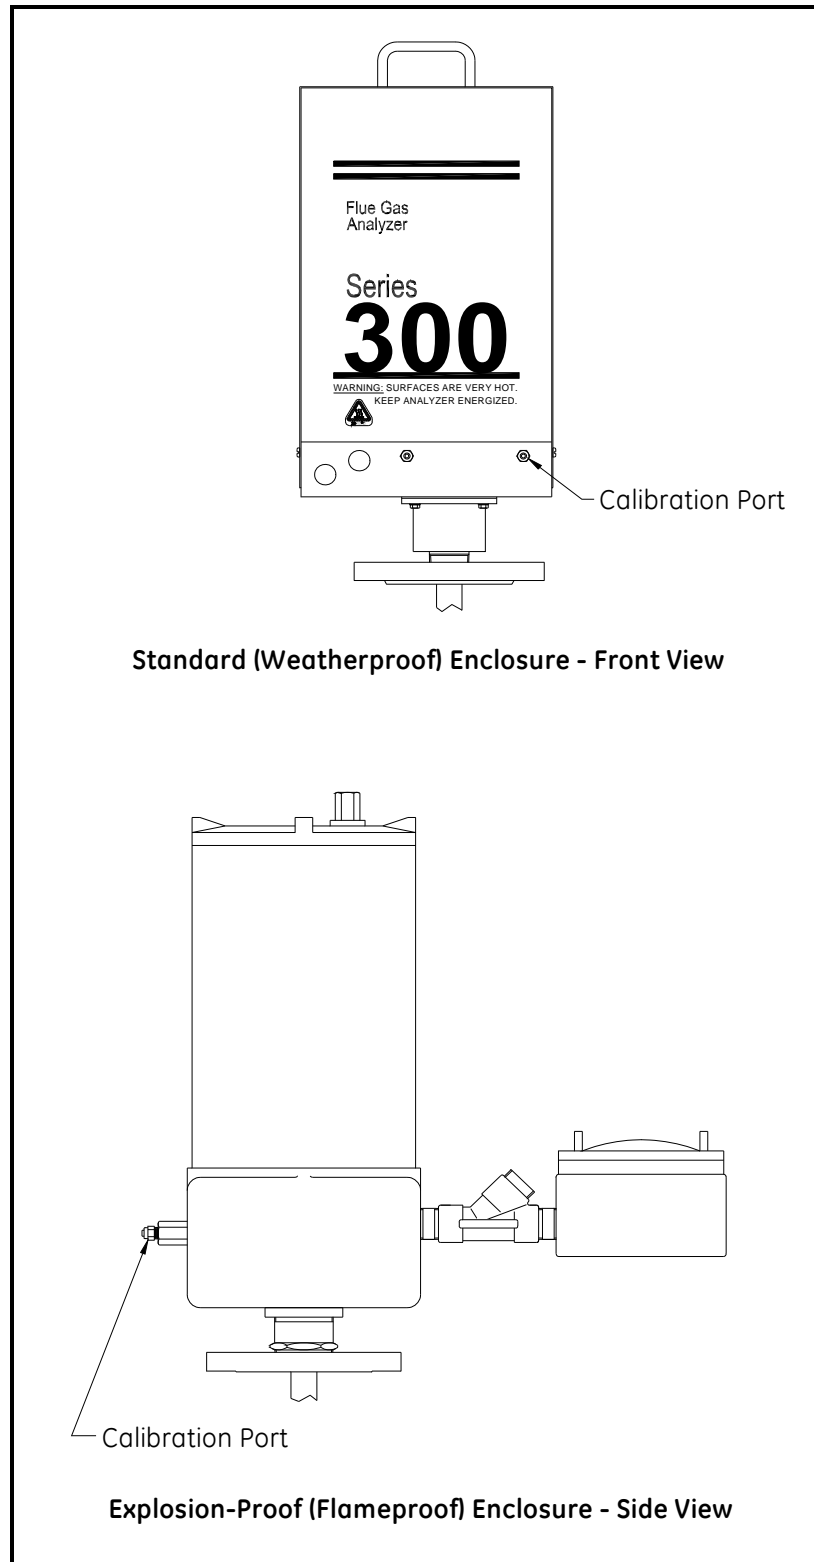

Figure 23: Calibration Port Location
1. Remove the blank (plug) from the calibration gas inlet port. Refer to Figure 23 on page 44 for the location of the calibration inlet port on the Main Analyzer Unit.
1. Introduce a calibration gas mixture, containing a known amount of oxygen, at the tagged flow rate to the Main Analyzer Unit. Refer to Figure 23 on page 44 for the location of the calibration gas inlet port.
Note: See Figure 23 on page 44 for the location of the calibration gas port and refer to Regulating the Calibration Gas Flow Rate on page 43 for the correct flow rate.